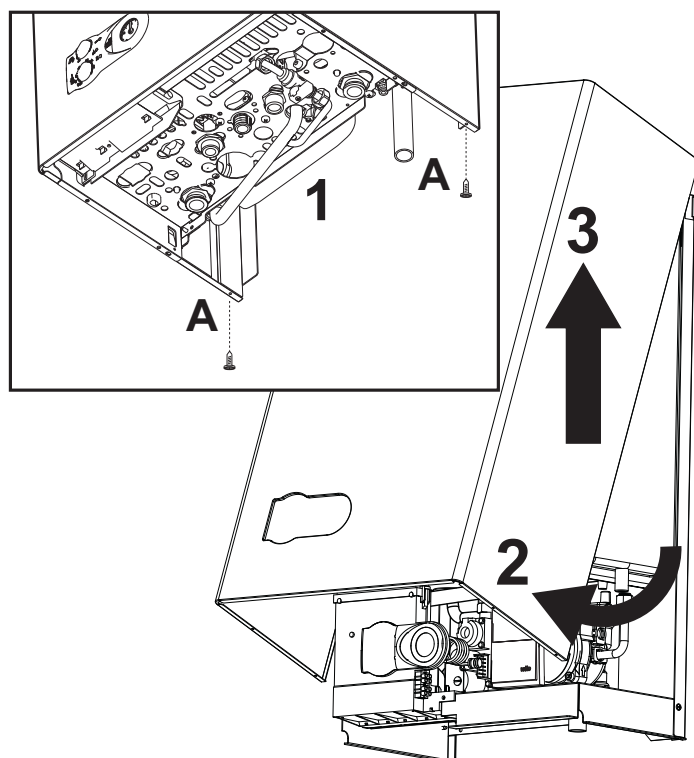

fig. 7 - Opening the casing
1. Undo the screws A (see fig. 7).
2. Turn the casing (see fig. 7).